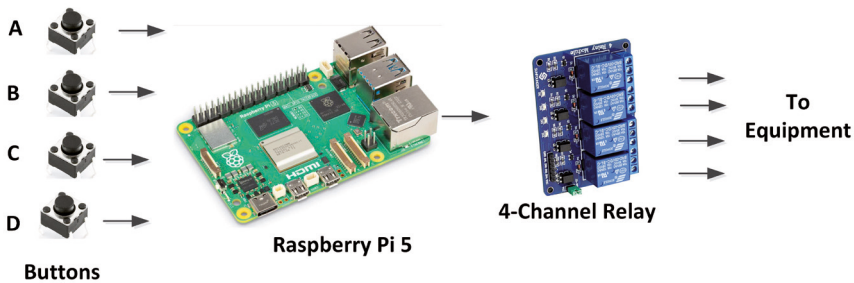

Figure 4.5: Block diagram of the project.
**Block Diagram:** Figure 4.5 shows the block diagram of the project.